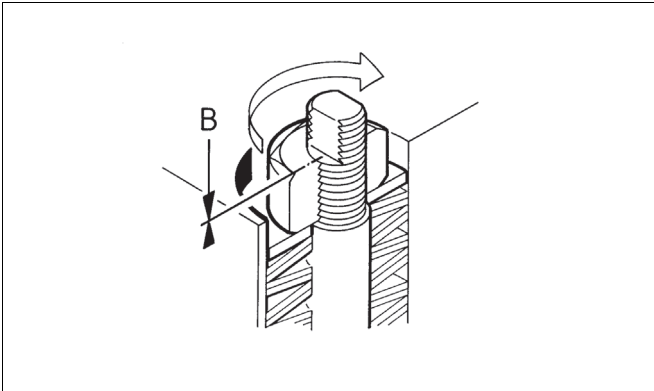

Fig. 13 Measuring "B"
- Measure the distance "B", See Fig. 13.